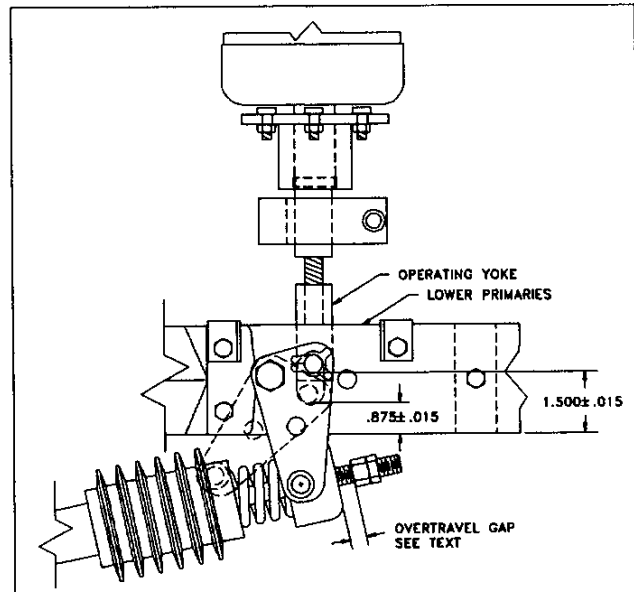

Figure 26. Operating Yoke Adjustments
- With closed contacts on a new vacuum interrupter, the bottom of the pin which connects the bell cranks to the operating yoke should be 1.500 ± 0.060 " above the bottom of the lower main primary disconnect bars. See Figure 26.
- As explained in the description of the mechanism operation, when the breaker is closed a gap will exist between the contact loading spring yoke and the nut on the push rod stud, Figure 26. With a new vacuum interrupter, this gap will be between $\frac{1}{2}$ inch and $\frac{5}{8}$ inch. As the contacts erode, the gap will reduce to about $\frac{1}{8}$ inch.
- Unscrew and remove the operating yoke at the lower end of the vacuum interrupter (Figure 26).